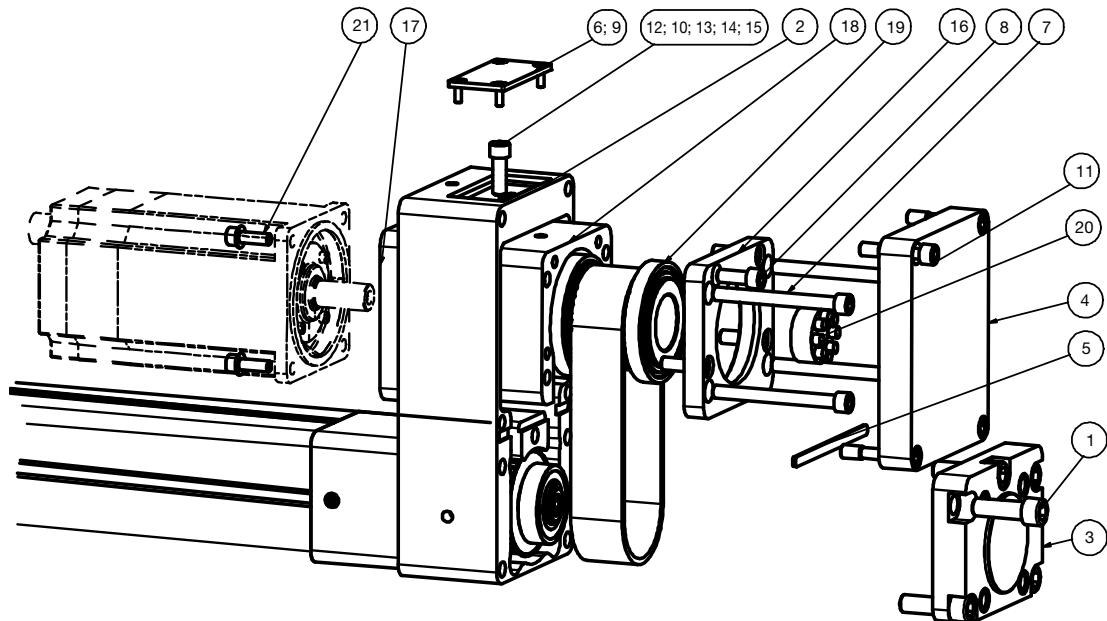

Figure 33: Exchanging the toothed belt ETH1xx
- ◆ Slightly loosen 4 screws (please refer to Figure 33: Exchanging the toothed belt ETH1xx Pos.7) by 1 or 2 turns.
- ◆ Loosen central toothed belt tensioning screw (please refer to Figure 33: Exchanging the toothed belt ETH1xx Pos.12) . The drive unit must lower slightly when the tensioning screw is loosened.
- ◆ Loosen tightening screw (please refer to Figure 33: Exchanging the toothed belt ETH1xx Pos.12) until the drive unit is not lowered any further.
- ◆ Loosen 5 screws (please refer to Figure 33: Exchanging the toothed belt ETH1xx Pos.1) and remove lid (please refer to Figure 33: Exchanging the toothed belt ETH1xx Pos.3). If the lid can not be removed easily (please refer to Figure 33: Exchanging the toothed belt ETH1xx Pos.3), try to remove it with a slightly pivoting movement.
- ◆ Remove middle bar (please refer to Figure 33: Exchanging the toothed belt ETH1xx Pos.5) with seal.
- ◆ Loosen 4 screws (please refer to Figure 33: Exchanging the toothed belt ETH1xx Pos.8) of the upper bearing flange (please refer to Figure 33: Exchanging the toothed belt ETH1xx Pos.16) (do not remove entirely).
- ◆ Unscrew 4 screws (please refer to Figure 33: Exchanging the toothed belt ETH1xx Pos.7) and remove motor flange (please refer to Figure 33: Exchanging the toothed belt ETH1xx Pos.17).
- ◆ Completely unscrew toothed belt tensioning screw (please refer to Figure 33: Exchanging the toothed belt ETH1xx Pos.12).
- ◆ **ATTENTION!** Secure upper bearing unit (please refer to Figure 33: Exchanging the toothed belt ETH1xx Pos.18) against falling.
- ◆ Remove upper bearing unit with toothed belt (please refer to Figure 33: Exchanging the toothed belt ETH1xx Pos.18).
- ◆ Loosen four screws (please refer to Figure 33: Exchanging the toothed belt ETH1xx Pos.8) of the upper bearing flange and remove bearing flange (please refer to Figure 33: Exchanging the toothed belt ETH1xx Pos.16) from the bearing (please refer to Figure 33: Exchanging the toothed belt ETH1xx Pos.19).
- ◆ Remove hollow shaft with the two bearings (please refer to Figure 33: Exchanging the toothed belt ETH1xx Pos.19) from the bearing housing (please refer to Figure 33: Exchanging the toothed belt ETH1xx Pos.18).
- ◆ (please refer to Figure 33: Exchanging the toothed belt ETH1xx Pos.2,3 and 4) must be sealed with Atomsit.
- ◆ Seal middle bar (please refer to Figure 33: Exchanging the toothed belt ETH1xx Pos.5) with the seal or with Atmosit.